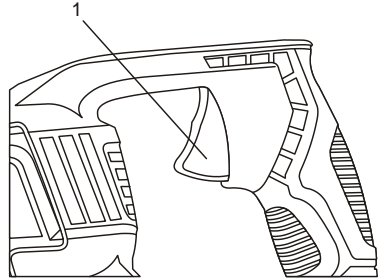

Fig. 4
1. To turn the saw ON, squeeze the switch trigger (1) slightly (Fig. 4).